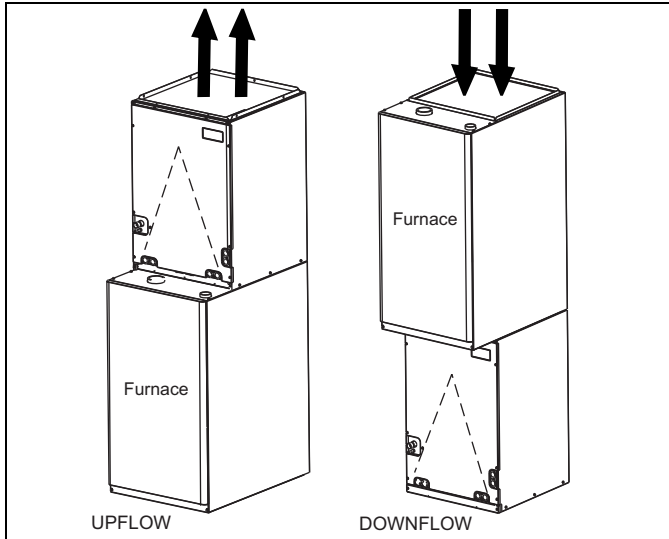

FIGURE 5: Vertical Applications
1. Position the coil casing over or under the furnace opening as shown in Figure 5 after configuring coil flanges as required see "Coil Flange" section below and refer to Figure 7.